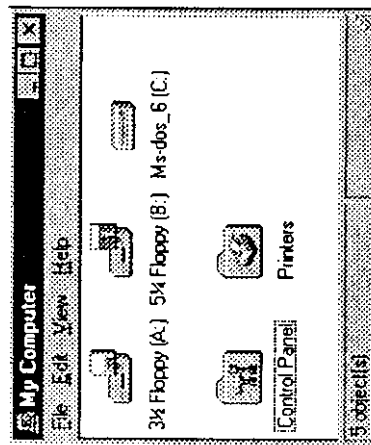

Figure 3-1.
2. OPEN the "My Computer" program group and SELECT the "Control Panel" icon as shown in Figure 3-1.